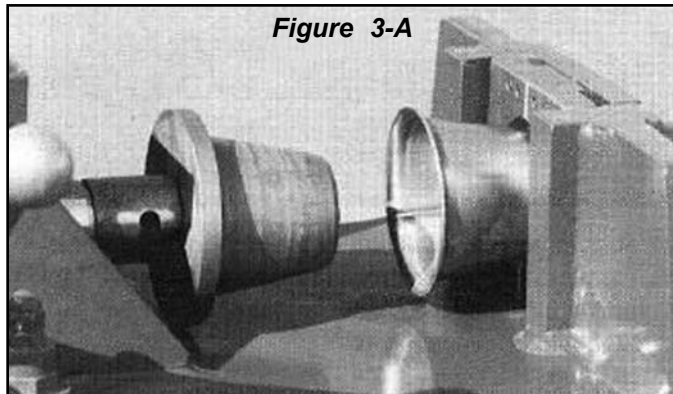

Figure 3-A
7. Make the collector flange by advancing the tool forward until the cylinder stops. Apply full pressure for this operation. (See figure 3-A)